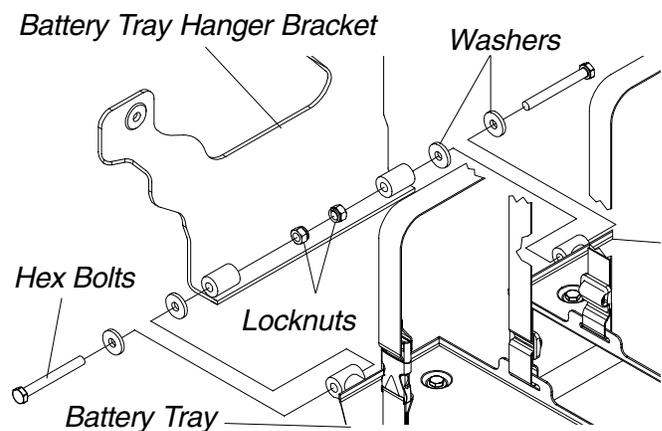

FIGURE 23 - BATTERY TRAY - REMOVING/INSTALLING BATTERY TRAY
**Removing Battery Tray (FIGURE 23)**
2. Remove the two (2) hex bolts and locknuts that secure the existing battery tray and washers to the battery tray hanger bracket.
**Installing Battery Tray (FIGURE 23)**
2. Position one (1) of the washers between the battery hanger bracket and the new/existing battery tray.
3. Reinstall one (1) of the hex bolts and washers through the new/existing battery tray, washer and battery tray hanger bracket and loosely tighten with one (1) of the locknuts.
5. Tighten the two (2) hex bolts and locknuts.
*NOTE: Tighten the Two (2) hex bolts and locknuts until the tray stays up by itself. Over tightening the hex bolts and locknuts will make the battery tray difficult to flip up.*